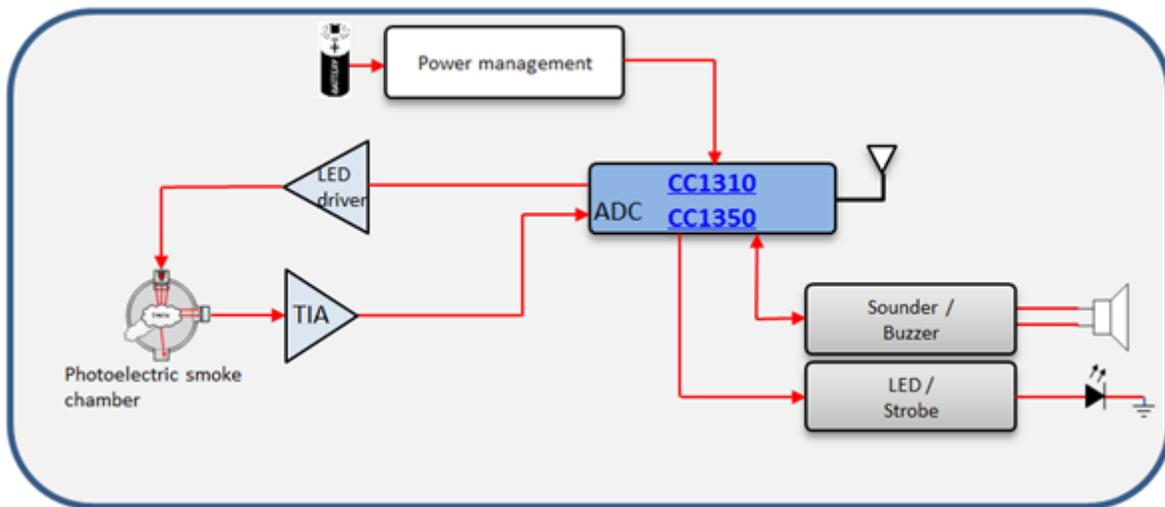

Figure 2. Photoelectric Smoke Alarm System Block Diagram
When designing a wireless smoke alarm, users can connect the smoke sensor to the MCU's analog-to-digital converter (ADC) through an amplifier that converts current to voltage, or it can be connected to a comparator and trigger the MCU using an interrupt. The CC1310/CC1350 devices have a large number of general-purpose input/output (GPIO), inter-integrated circuit (I2C), universal asynchronous receiver/transmitter (UART), serial peripheral interface (SPI) and other interfaces that may be required. By choosing a wireless MCU versus an MCU plus a radio-frequency (RF) transceiver chip combination, the system can achieve lower power size, and lower cost allowing for a quicker time to market. Figure 2 shows the block diagram of a typical smoke alarm system.